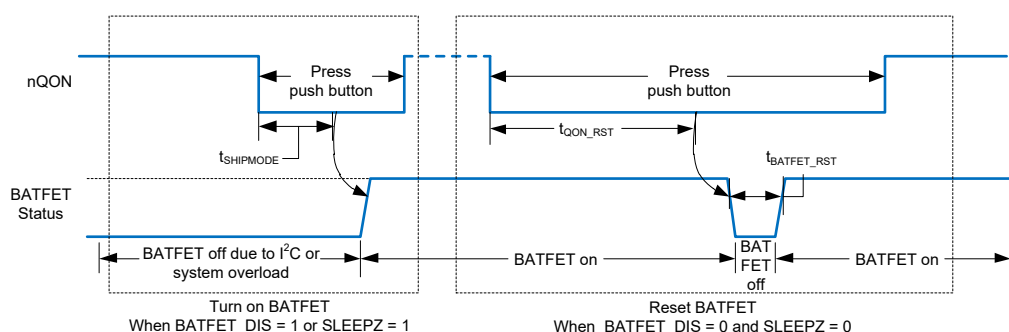

Figure 10. Left: nQON Timing to Exit Ship Mode (Enable BATFET), Right: System Power Reset (BATFET Temporarily Off)
1. Enable BATFET: Applying an nQON logic high to low transition with longer than $t_{SHIPMODE}$ deglitch time (negative pulse) turns on BATFET to exit ship mode (Figure 10 left). When exiting shipping mode, HIZ is enabled ($EN_HIZ = 1$) as well. HIZ can be disabled ($EN_HIZ = 0$) by the host after exiting shipping mode. OTG cannot be enabled ($OTG_CONFIG = 1$) until HIZ is disabled.
2. Reset BATFET: By applying a logic low for a duration of at least t_{QON_RST} to nQON pin while VBUS is not powered and BATFET is allowed to turn on ($BATFET_DIS$ bit = 0), the BATFET turns off for t_{BATFET_RST} and then it is re-enabled resulting in a system power-on-reset. This function can be disabled by clearing $BATFET_RST_EN$ bit (Figure 10 right).